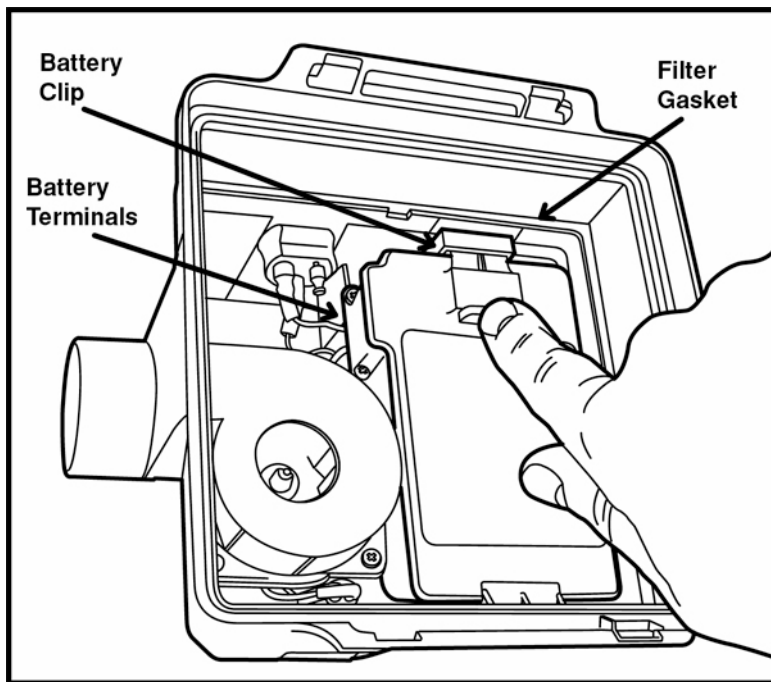

Fig. 2
2. Insert the battery pack into its compartment and press it down to seat in place. This action will engage the battery terminals in the socket on the side of the battery pack. (Fig. 2)